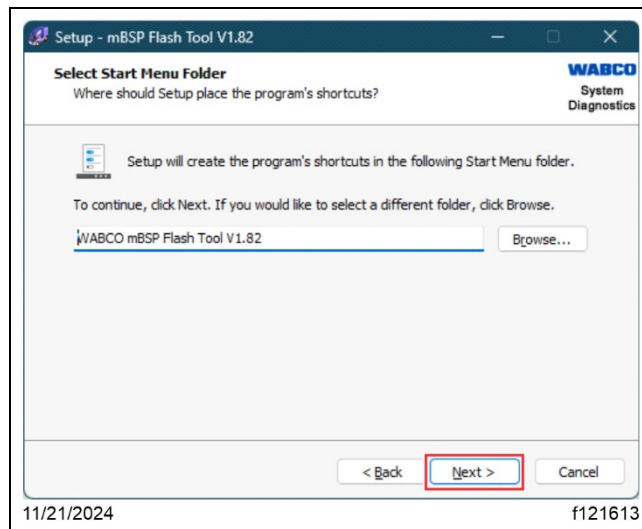

Fig. 37, Selecting the Start Menu Folder
7.9. On the 'Select Start Menu Folder' screen, select 'Next.' See Fig. 37.